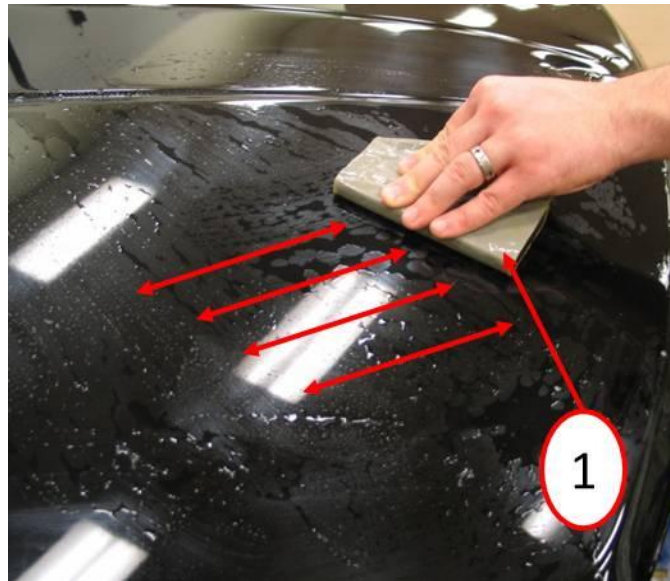

Fig. 6 Wet Sanding
8. Lightly wetsand the overspray with Meguiars unigrit 2500 wet sandpaper (or equivalent) with a Meguiars sanding pad (or equivalent) in a unidirectional pattern until the overspray has been removed or more than 0.2 mils of clearcoat has been removed (Fig. 6).